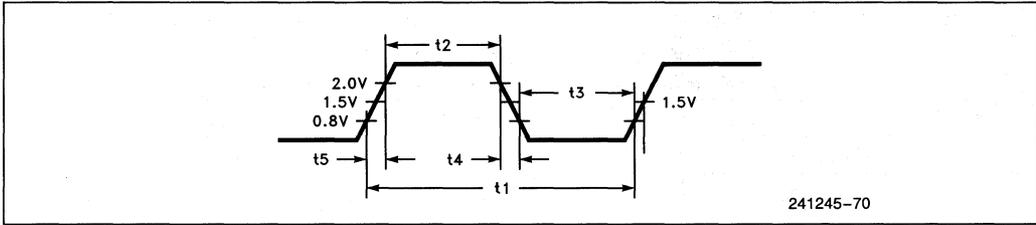

Figure 14.1. CLK Waveforms
A.C. specifications measurement is defined by Figures 14.1–14.7. All timings are referenced to 1.5V unless otherwise specified. Inputs must be driven to